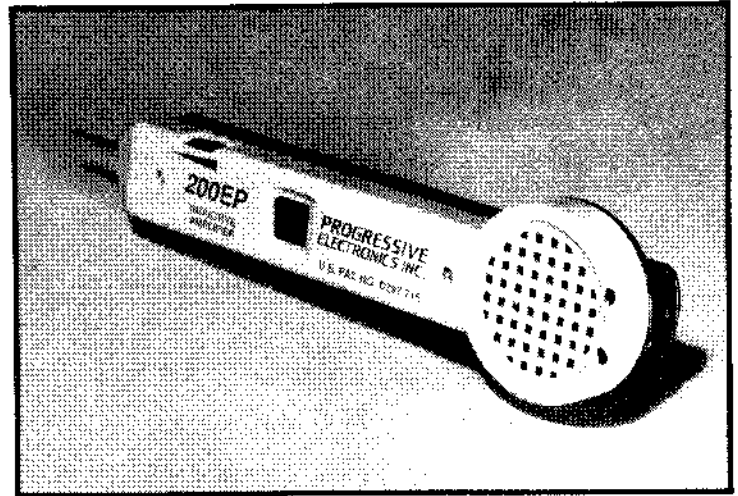

Figure 1. Inductive Amplifier Model 200EP.
1.01 This section provides information on the Model 200EP Inductive Amplifier, manufactured by Progressive Electronics, Inc. (See Figure 1)